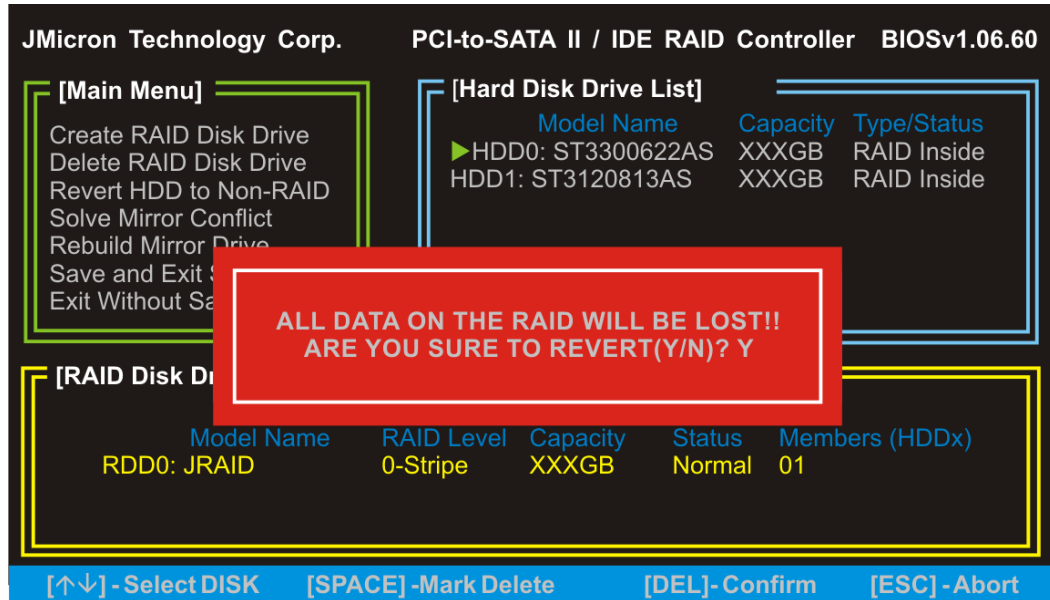

Figure E-15: Confirm revert HDD to non-RAID
Step 3: A confirmation message appears (Figure E-15). Press Y to confirm the action.